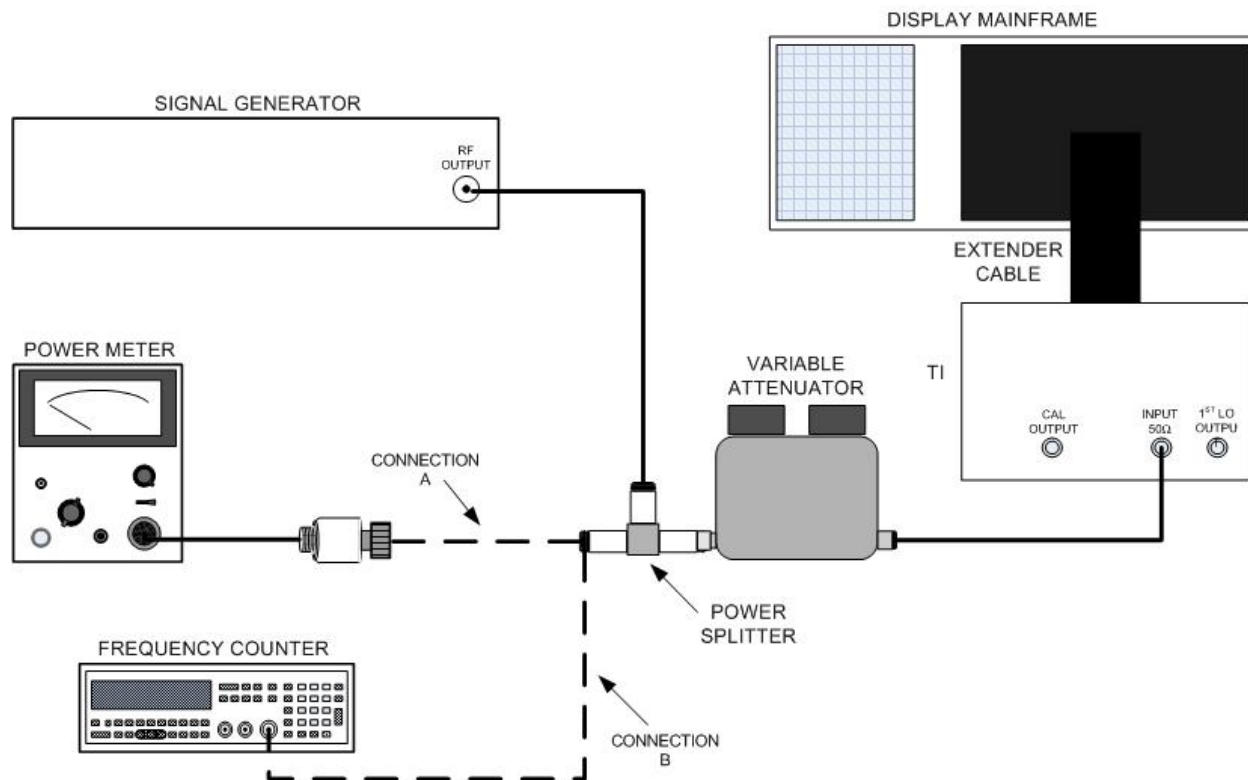

Figure 2. Calibrator levels - equipment setup.
(5) Disconnect **280 MHz CAL OUTPUT** to **INPUT 50Ω** and connect equipment as shown in figure 2 (connection A).
(6) Set variable attenuator to 20 dB.
(7) Adjust signal generator frequency and power output level to match references established in (3) and (4) above.
(8) If power meter indication is not between -9 and -11 dBm, perform **b** (1) through (3) below.
(9) Connect equipment as shown in figure 2 (connection B). If frequency counter does not indicate between 279.7 and 280.3 MHz (SN 2118A and below, 279.95 and 280.05 MHz), perform **b** (4) through (6) below.
(2) Disconnect equipment as shown in figure 2 and connect **280 MHz CAL OUTPUT** to **INPUT 50Ω**.